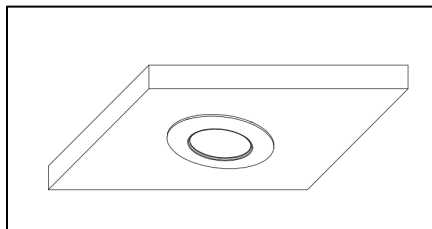

Figure 7
8. Turn the power back on. If the module doesn't illuminate within 5 seconds, turn power off, carefully remove the module and double check all wiring and replace. (Figure 7)